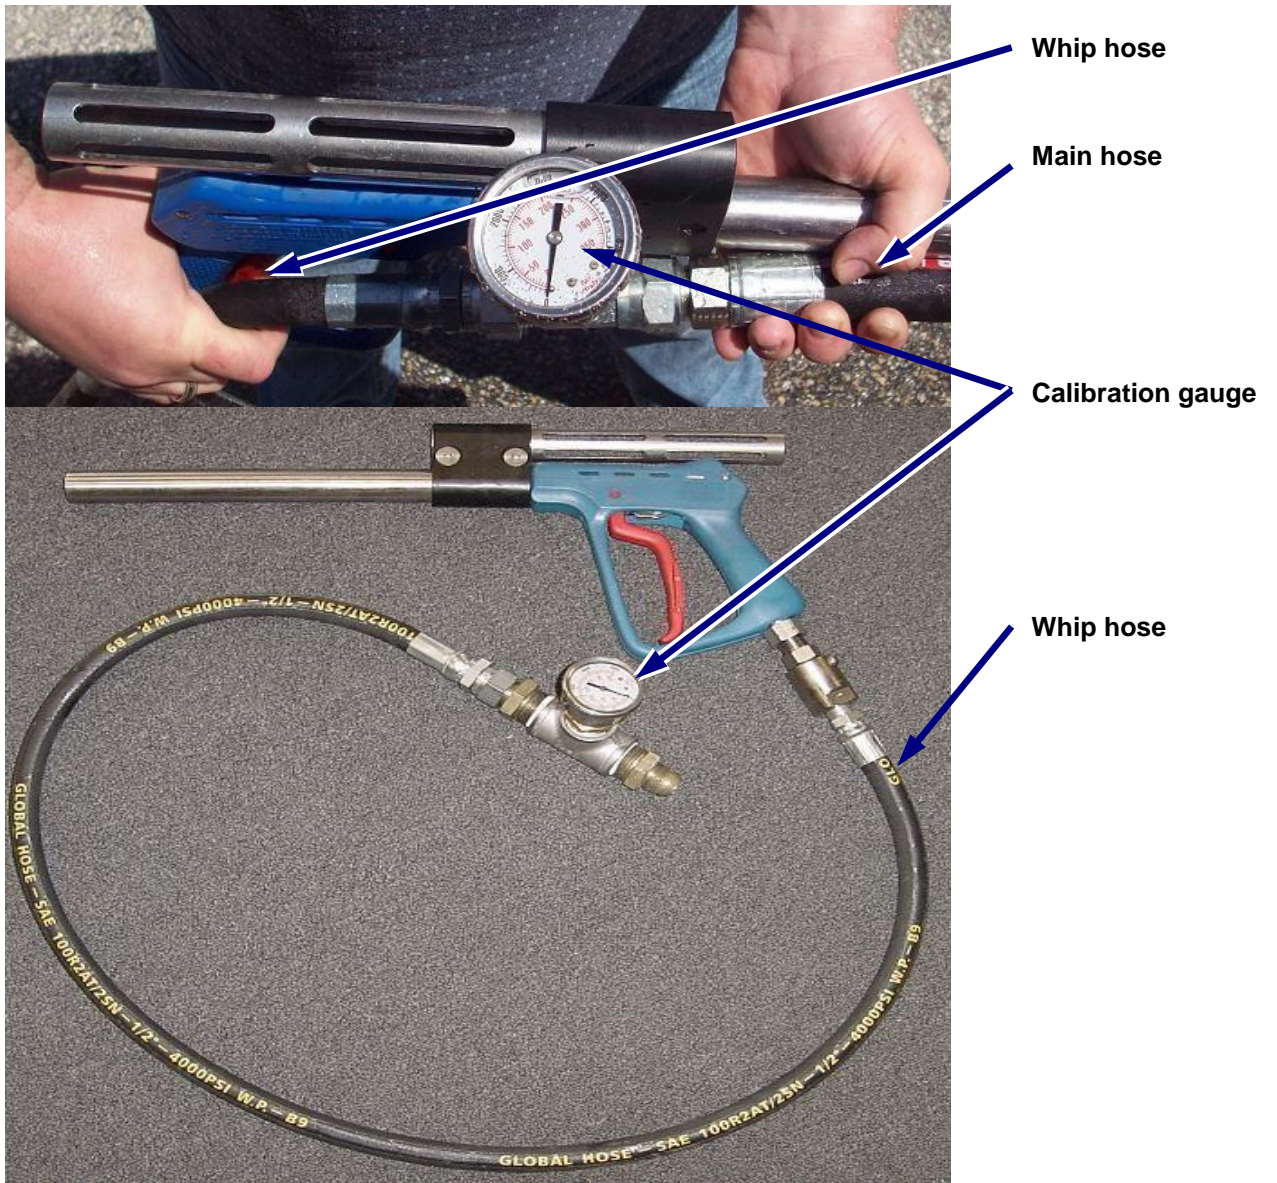

Figure 5.2 – Gun Pressure Calibration
- Hold the gun tight and observe the calibration gauge (See Figure 5.2).